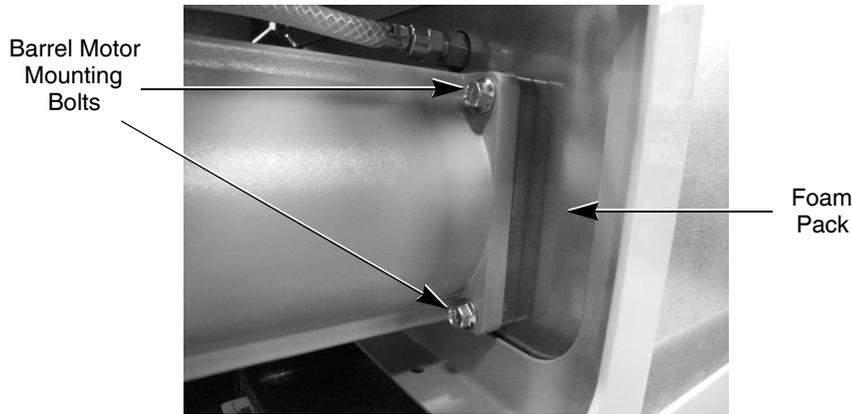

Figure 44. Side View of Motor Showing Two of the Four Mounting Bolts
The barrel motor does not require any special alignment when being replaced. It mounts on four (4) bolts. These bolts are screwed into threaded bosses in the foam pack barrel assembly, as shown in Figure 44. To replace a barrel motor, perform the procedure in Table 47